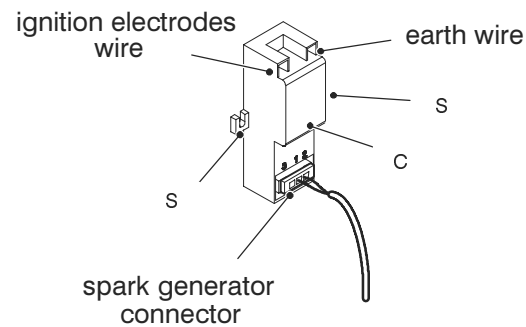

Fig. 18.9
- 2 Disconnect the spark generator connector coming from the control p.c.b, the electrodes wire and the earth wire coming from the ignition electrodes (Fig. 18.9).